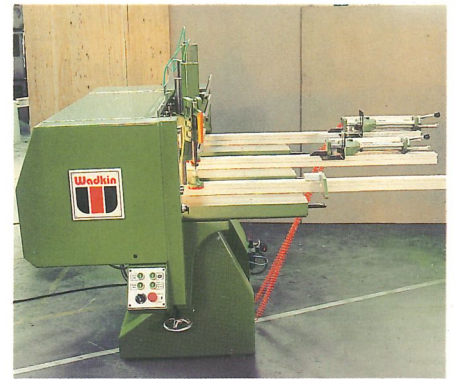

Fig 2
- 1500mm (5 ft) long graduated fence to each table — Fig 2